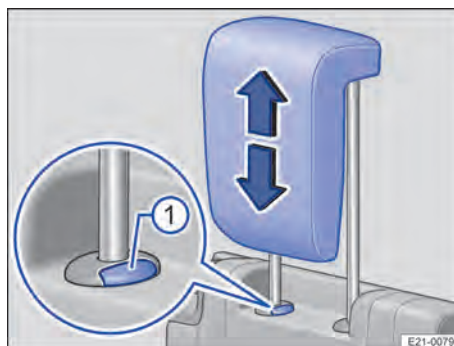

Fig. 76 Third row of seats: Adjusting the head restraint
3. To release the head restraint from the locked position, press the → Fig. 76 ① button and lower the head restraint.